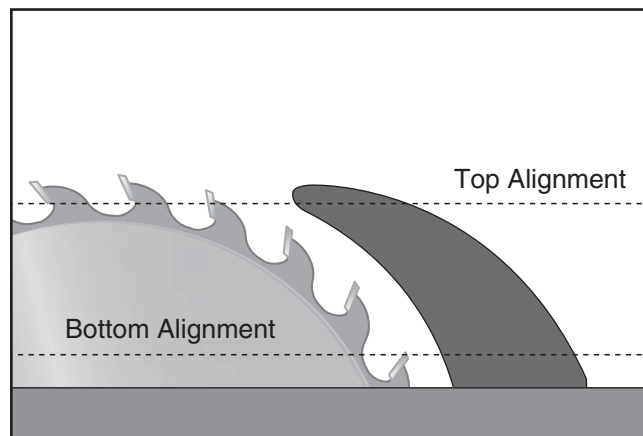
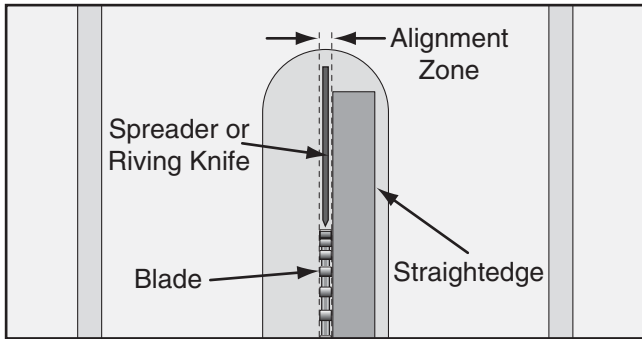

Figure 115. Checking top and bottom riving knife parallelism with blade.
Figure 116. Spreader/ripping knife alignment zone.
4. Place the straightedge against the top and bottom of blade and spreader/riving knife, as shown in **Figure 115**. The spreader/riving knife should be parallel with the blade along its length at both positions and should be in the "Alignment Zone," as shown in **Figure 116** on **Page 68**.